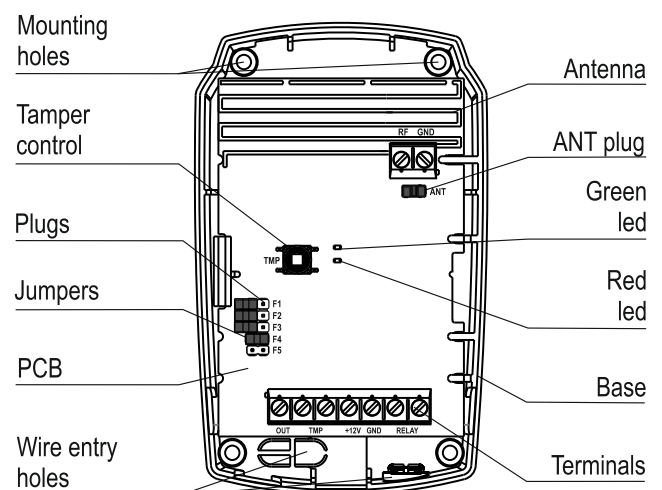

Fig. 2
5.1.1 Structurally, the RVC is made in the form of a unit consisting of a base and a removable cover. A PCB with radio elements and a built-in antenna is mounted inside the unit (fig. 2).